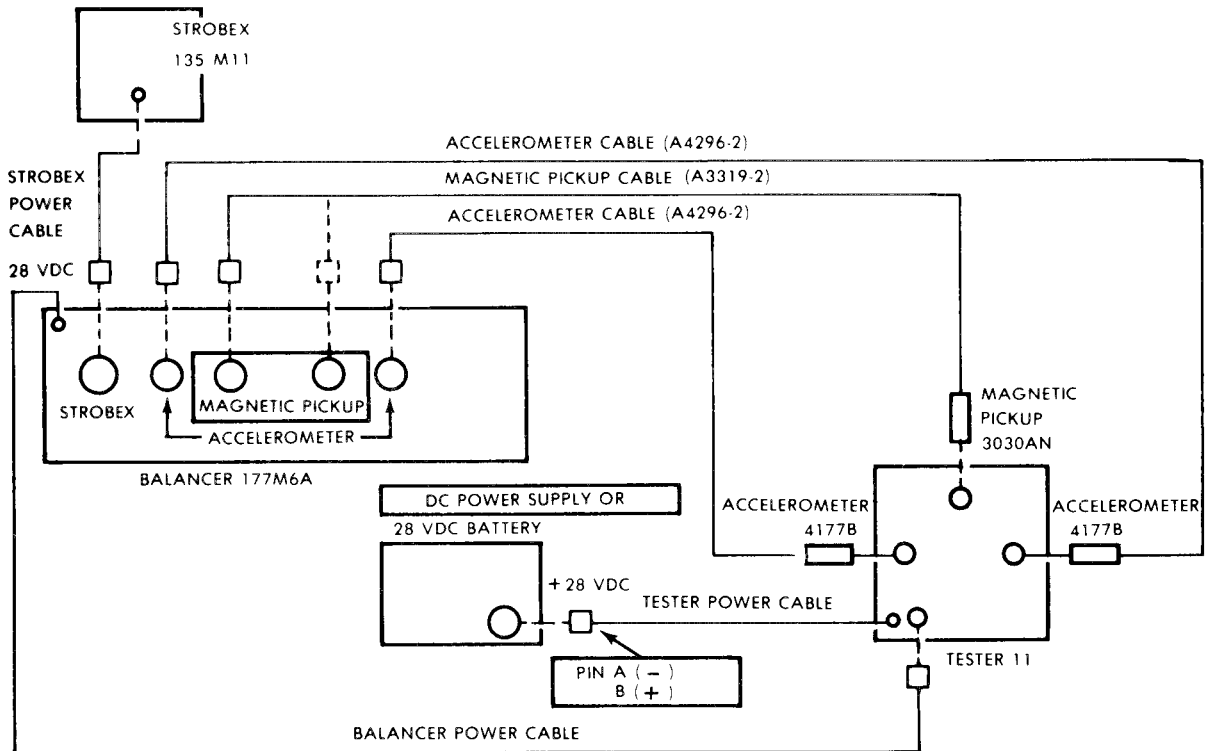
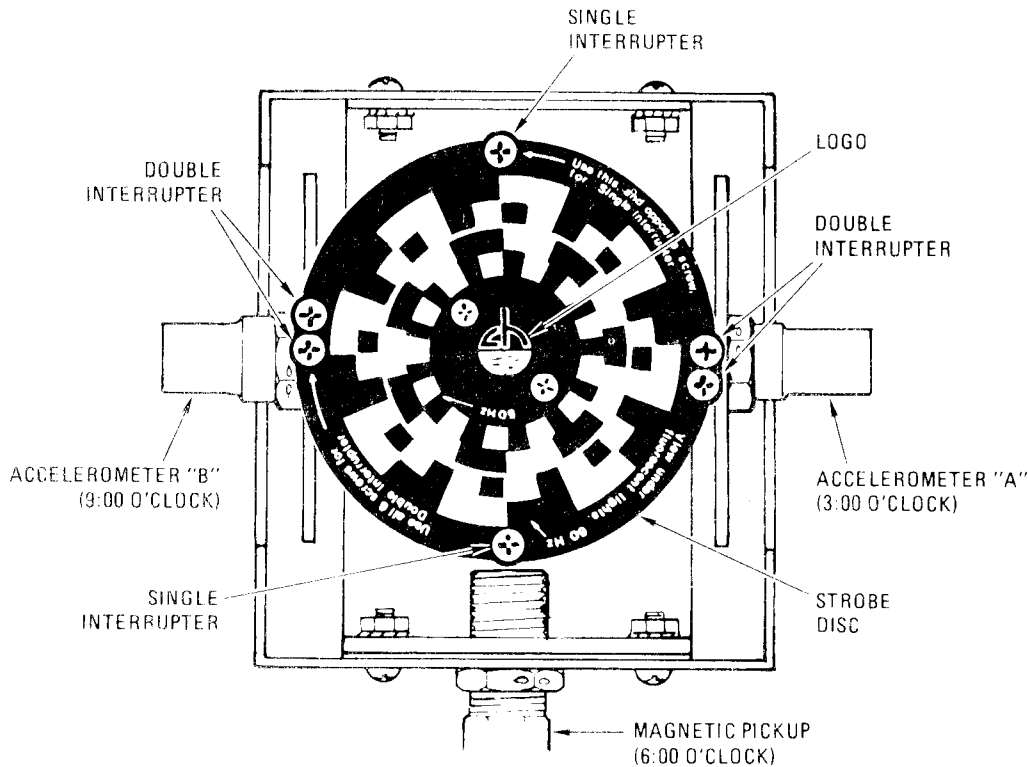
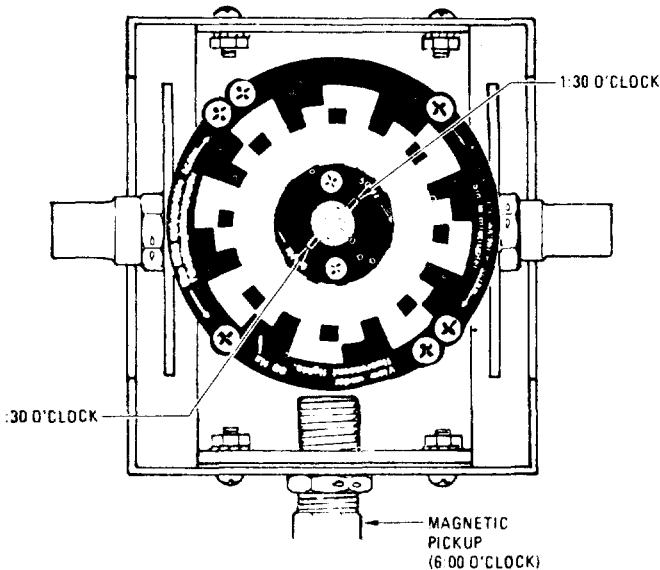
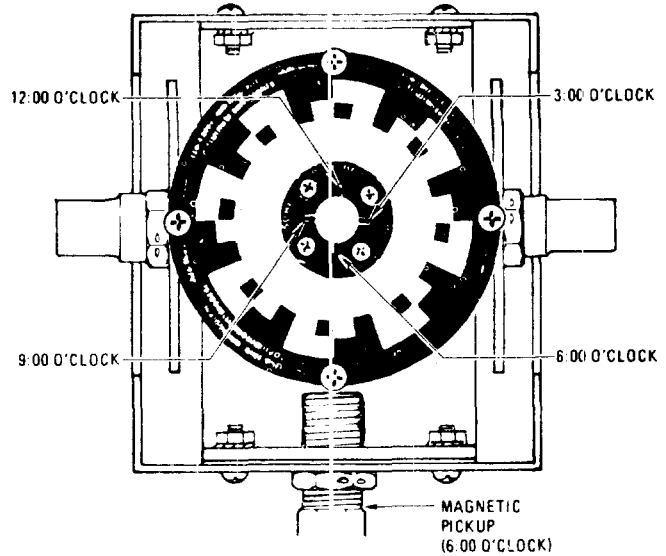

Figure 3-1. Tester, Accelerometer, and Magnetic Pickup Installation
Figure 3-3. Tester Interrupter Placement
Figure 3-4. Logo at 1:30 and 7:30 O'clock
Figure 3-5. Logo at 12:00, 3:00, 6:00, and 9:00 O'clock
b. Test Setup. Refer to figure 3-1 for VIBREX test setup.
- (6) Set Tester rotor for double interrupter with all six screws in place (fig. 3-3).
- (7) Set Tester CAM RATE (RPM) and Balancer RPM Tune to 1800 RPM, RPM RANGE to X10.
- (8) Test Balancer with double interrupter as follows:
- (9) Test Balancer with single interrupter as follows:
- (a) Set INTERRUPTER LOGIC switch to SINGLE. leave others as set in step (4).
- (1) Connect VIBREX and Tester as shown in figure. 3-1.
- (2) Set Tester CAM RATE switch to 1800 RPM.
- (3) Set Balancer FUNCTION switch to A or B. Set Balancer RPM TUNE to 180 and set balancer RPM range switch to the X10 scale. All other controls are unimportant.
- (4) Set Strobex MODE switch to A.
- (5) Set Tester rotor for double interrupter (all six interrupter screws installed, fig. 3-3).
- (6) Set Tester MOTOR switch to ON and illuminate Tester rotor with the Strobex. Verify that the stem of the h in the logo appears stopped in two positions.
- (7) Note the clock angle of the stem of the h in the logo. Push and hold VERIFY TUNE button and adjust RPM TUNE dial to return images to clock angle observed before button was pushed. Release VERIFY TUNE button and observe new clock angle. Repeat until there is no change whether VERIFY TUNE button is pushed or released. When the Balancer is properly tuned, the stem of the h in the logo at the center of the disc appears stopped and double at 1:30 and 7:30 O'clock (fig. 3-4).
- (8) Set Tester CAM RATE (RPM) and Balancer RPM TUNE to 900 RPM RANGE to XI. Observe the same results as in step (7).
- (2) Set up Tester rotor for double interrupter (all six interrupter screws installed).
- (3) Set Strobex MODE switch to A.
- (4) Illuminate Tester rotor with Strobex. Verify that the stem of the h in the logo appears stopped at 12:00, 3:00, 6:00, and 9:00 o'clock (fig. 3-5).
- (5) Set Tester CAM RATE (RPM) and Balancer RPM TUNE to 1800. RPM RANGE to X10. Observe the same results.
- (6) Set INTERRUPTER LOGIC switch to SINGLE.
- (7) Shut off Tester.
- (8) Remove the two opposite pairs of interrupter screws on the Tester (four total) leaving only the two opposite single screws (fig. 3-3).
- (9) Run the Tester at 1800 RPM and illuminate the rotor with the Strobex. Verify that the stem of the h appears stopped at 12:00 and 6:00 o'clock.
- (10) Set Tester CAM RATE (RPM) and Balancer RPM TUNE to 900. RPM RANGE to XI. Observe the same results.
- (11) Shut off Tester.